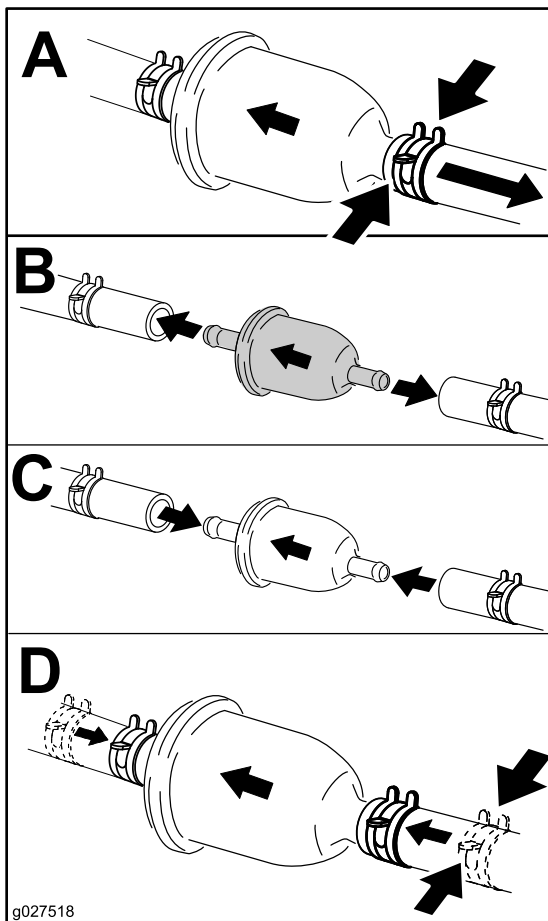

Figure 60
4. Replace the fuel filter as shown in Figure 60.